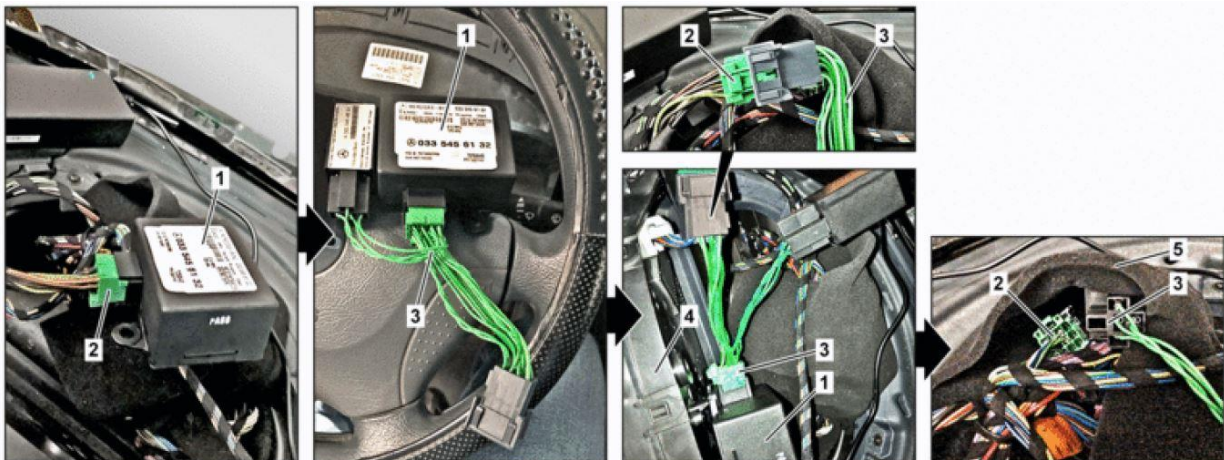

Figure 3 – Install Adapter Wiring Harness
23. Disconnect the electrical connector from the Remote Keyless Entry (RKE) immobilizer module on the back of the instrument cluster rear cover (Figure 3).
24. Install adapter wiring harness (3) and connect to RKE immobilizer module (1) (Figure 3).
25. Connect electrical connector (2) to adapter wiring harness (3) (Figure 3).
26. Wrap electrical connector (2) together with adapter wiring harness (3) in foam material (5) already present in the instrument panel (Figure 3).
NOTE: The foam material (5) will serve as chafe protection and soundproofing (Figure 3).